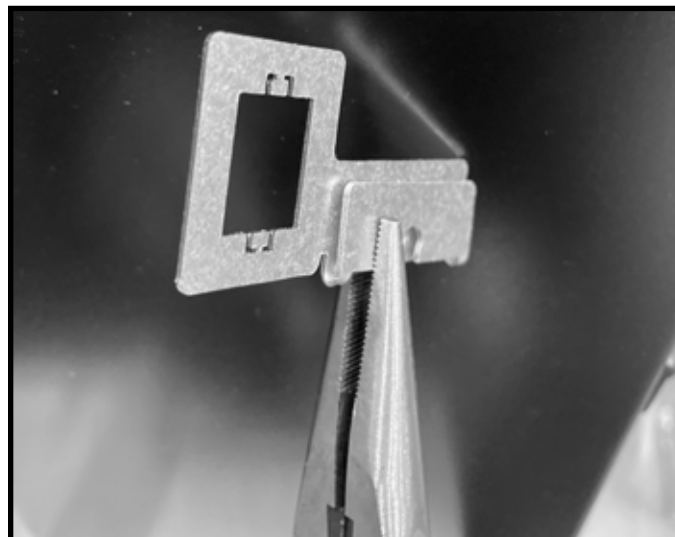

Figure 2 Bend USB-C Bracket
6. Remove USB-C bracket from kit manual bag and bend it as shown in Figure 2.